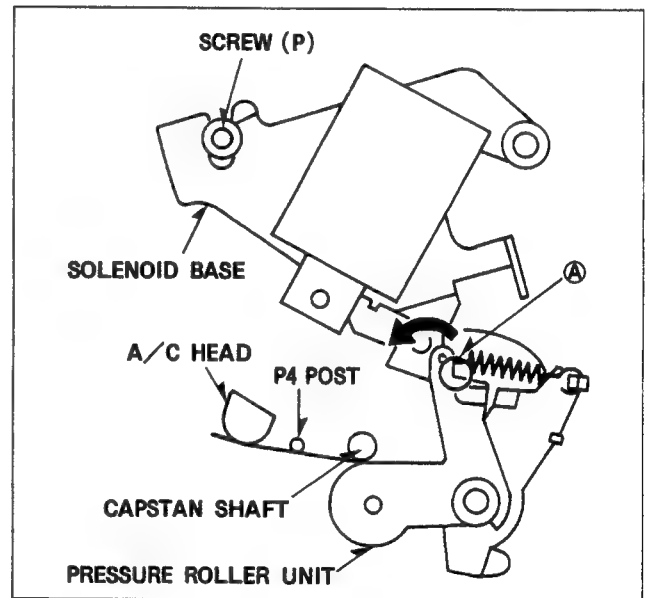

Figure M37
3. Set the Fan Type Tension Gauge to the part (A) of Pinch Roller Unit.
4. Press the Arm with the Gauge, in the direction indicated by the arrow as shown in Figure M37.